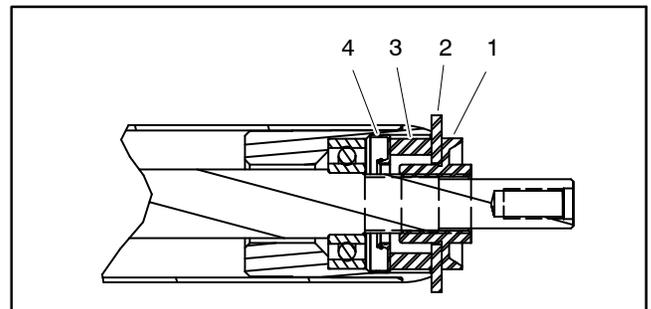

Figure 39
8. Position an assembly spacer and yellow assembly washer (see Special Tools) on each end of roller shaft (Fig. 39). Thread nut onto each end of shaft.